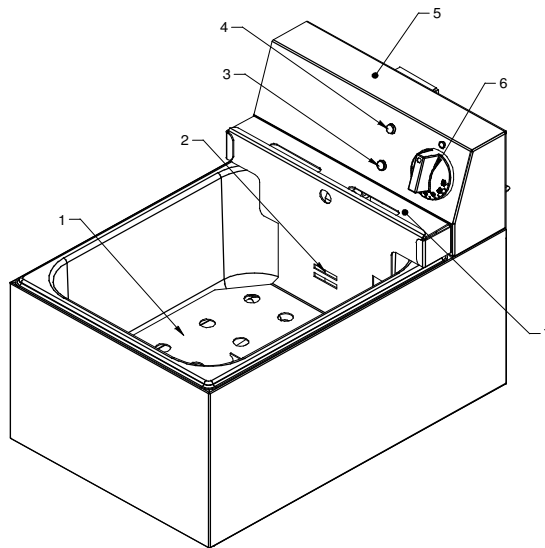

Fig 1 – Model LDF
Fig 1 also represents the other fryer models in the Lynx 400 range.
- Fill the tank with oil to a level between the markers (Fig 1) on the batter plate. See Technical Specifications for recommended oil quantities and only use clean cooking oil.
- Place the basket with the fried food into the slots in the basket support (Fig.1) to allow the oil to drain.